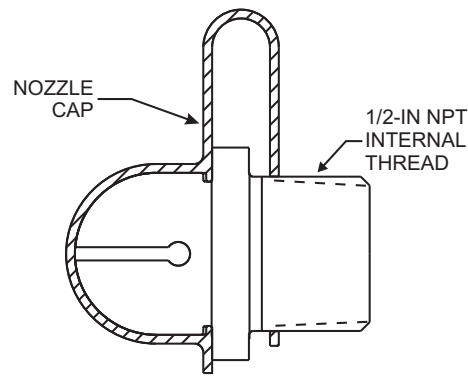
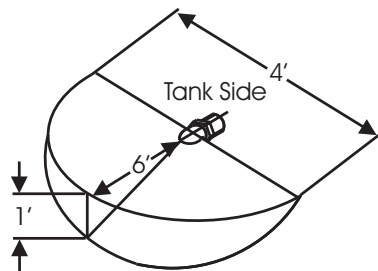

Figure 2-25. Fan Nozzle, P/N WK-259072-001
Figure 2-26. Typical Fan Nozzle Spray Pattern
The fan nozzle is a plated steel nozzle with a semicircular slot which delivers a 180° fan-shaped stream of dry chemical. This nozzle can be used for local applications and can cover a larger area than the cone nozzle. Figure 2-25 shows the fan nozzle. Figure 2-26 shows the nozzle and spray pattern.
- Fan Nozzle (See Figure 2-25) - for use with ABC dry chemical only.